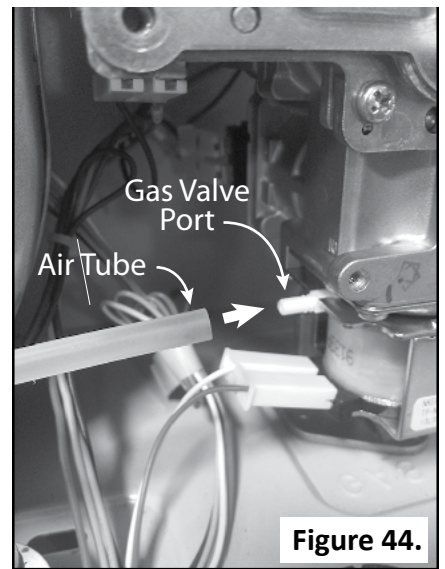

Figure 44.
- 5.4 Disconnect the clear air tube off the left side of the gas valve. (Figure 44.)